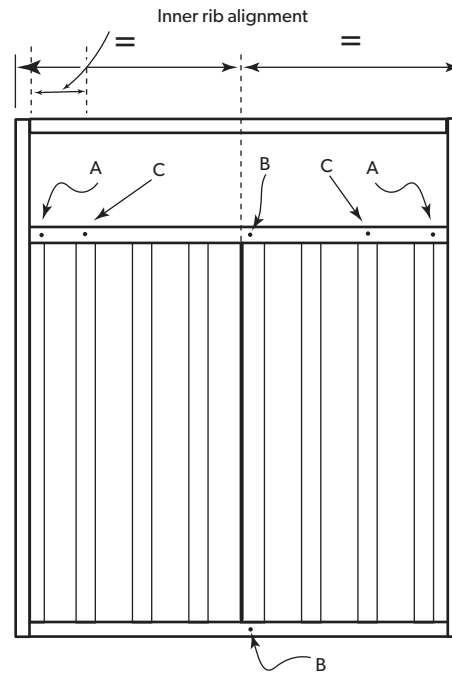

Figure 21.5
12. If your gate includes a 'PLUS Option' (lattice or slats), insert it into the top rail. Swing the bottom of the lattice/slats in and secure it to the lower top rail using 3 hex. head screws #10-16x16 for standard width gates, or 3 for extra wide gates. Secure it also to the top rail: 2 screws for standard width gates, and 3 screws for extra wide gates (Figure 21.5).